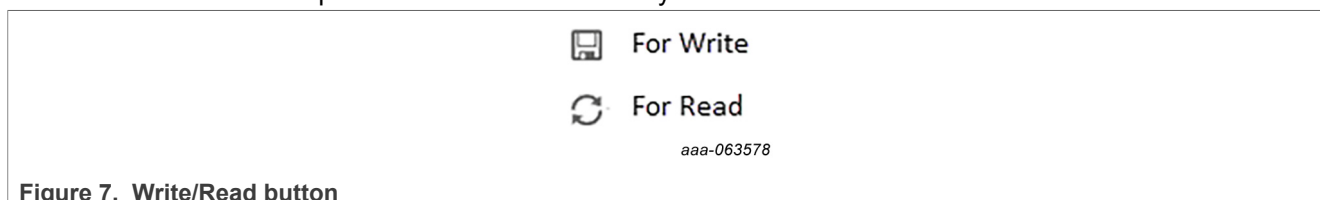

Figure 7. Write/Read button
1. In the always-visible window at the top-right, there are two symbols that allow you to write to and read from all selected registers in that sheet, see Figure 7. Alternatively, there are also two buttons at the top labeled 'Write' and 'Read' that provide the same functionality.